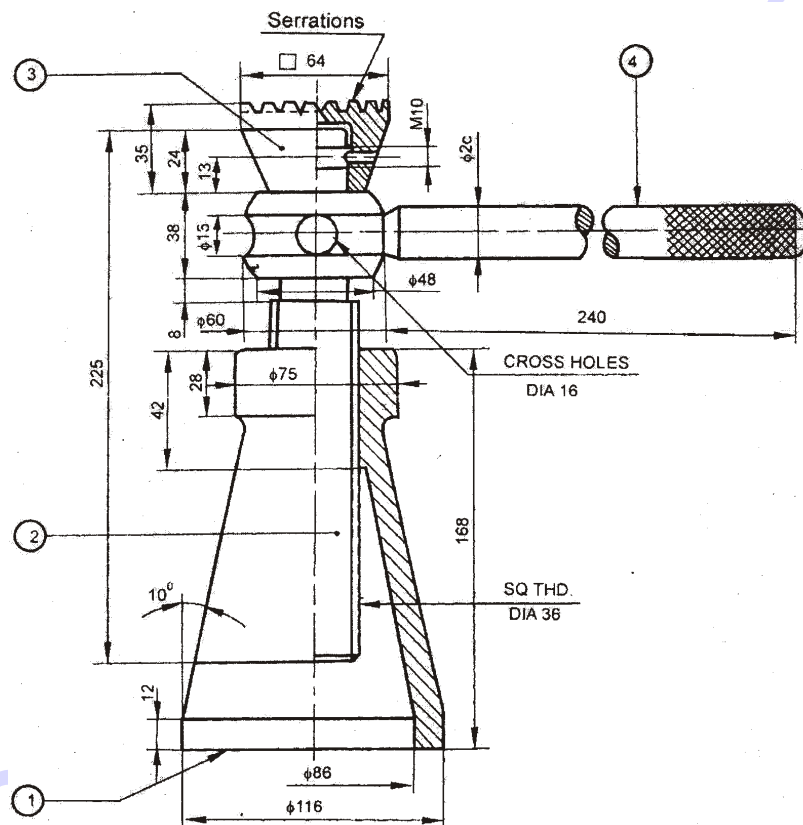

Fig. 2
6. Study the given assembly drawing of the screw jack shown in Fig. 2 :